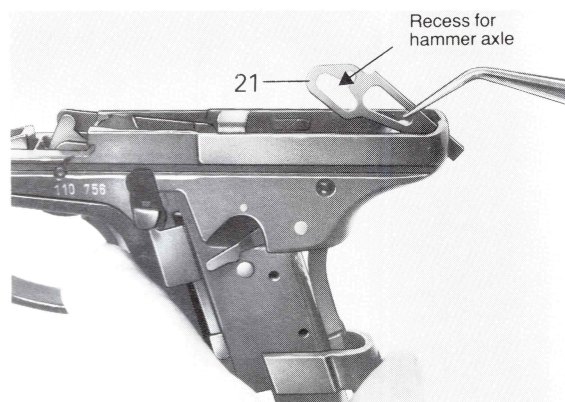

Fig. 43
- With the trigger operated, fit the indicator pin (21), feeding the shorter leg through the rear recess in the receiver (Fig. 43).